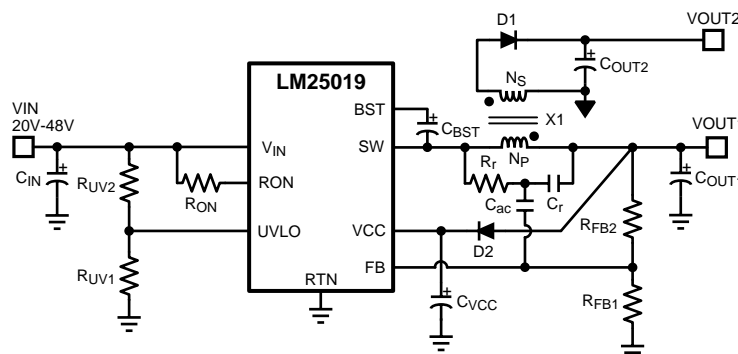

Figure 17. Typical Isolated Application Schematic
An isolated supply using LM25019 is shown in Figure 17. Inductor (L) in a typical buck circuit is replaced with a coupled inductor (X1). A diode (D1) is used to rectify the voltage on a secondary output. The nominal voltage at the secondary output ( $V_{OUT2}$ ) is given by:
A soft-start feature can be implemented to the LM25019 using an external circuit. As shown in Figure 17, the soft-start circuit consists of one capacitor,  $C_1$ , two resistors,  $R_1$  and  $R_2$ , and a diode, D. During the initial start-up, the VCC voltage is established prior to the  $V_{OUT}$  voltage. D is thereby forward biased and the FB voltage is pulled up above the reference voltage (1.225 V). The switcher is disabled. With the charging of the capacitor  $C_1$ , the voltage at node B gradually decreases. Due to the action of the control circuit,  $V_{OUT}$  will gradually rise to maintain the FB voltage at the reference voltage. Once the voltage at node B is lower than the FB voltage, plus the voltage drop of D, the soft-start is finished and D is reverse biased.